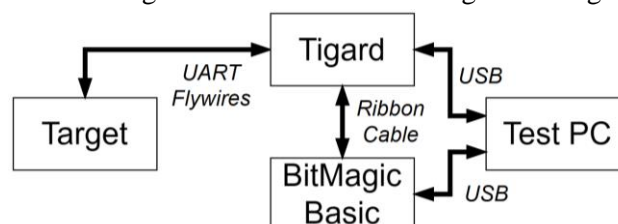

Figure 28: Block diagram for UART Tx using Tigard with BitMagic Basic
3. Power off your target, then connect the Tigard UART cable to the target. See Figure 28 for a block diagram.